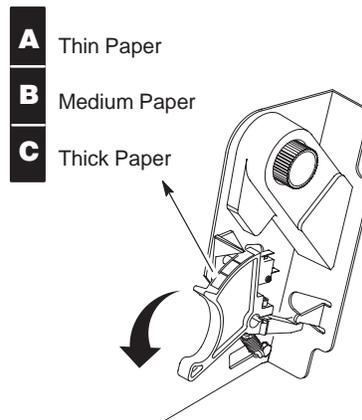

Figure 2–36. The Forms Thickness Scale
4. Lower the forms thickness lever. (The CLOSE PLATEN fault clears automatically.) Set it to match the paper thickness. If you are using single-part forms, set the forms thickness lever so that “A” is next to the indicator (refer to note on shuttle cover). (See Figure 2–36.)